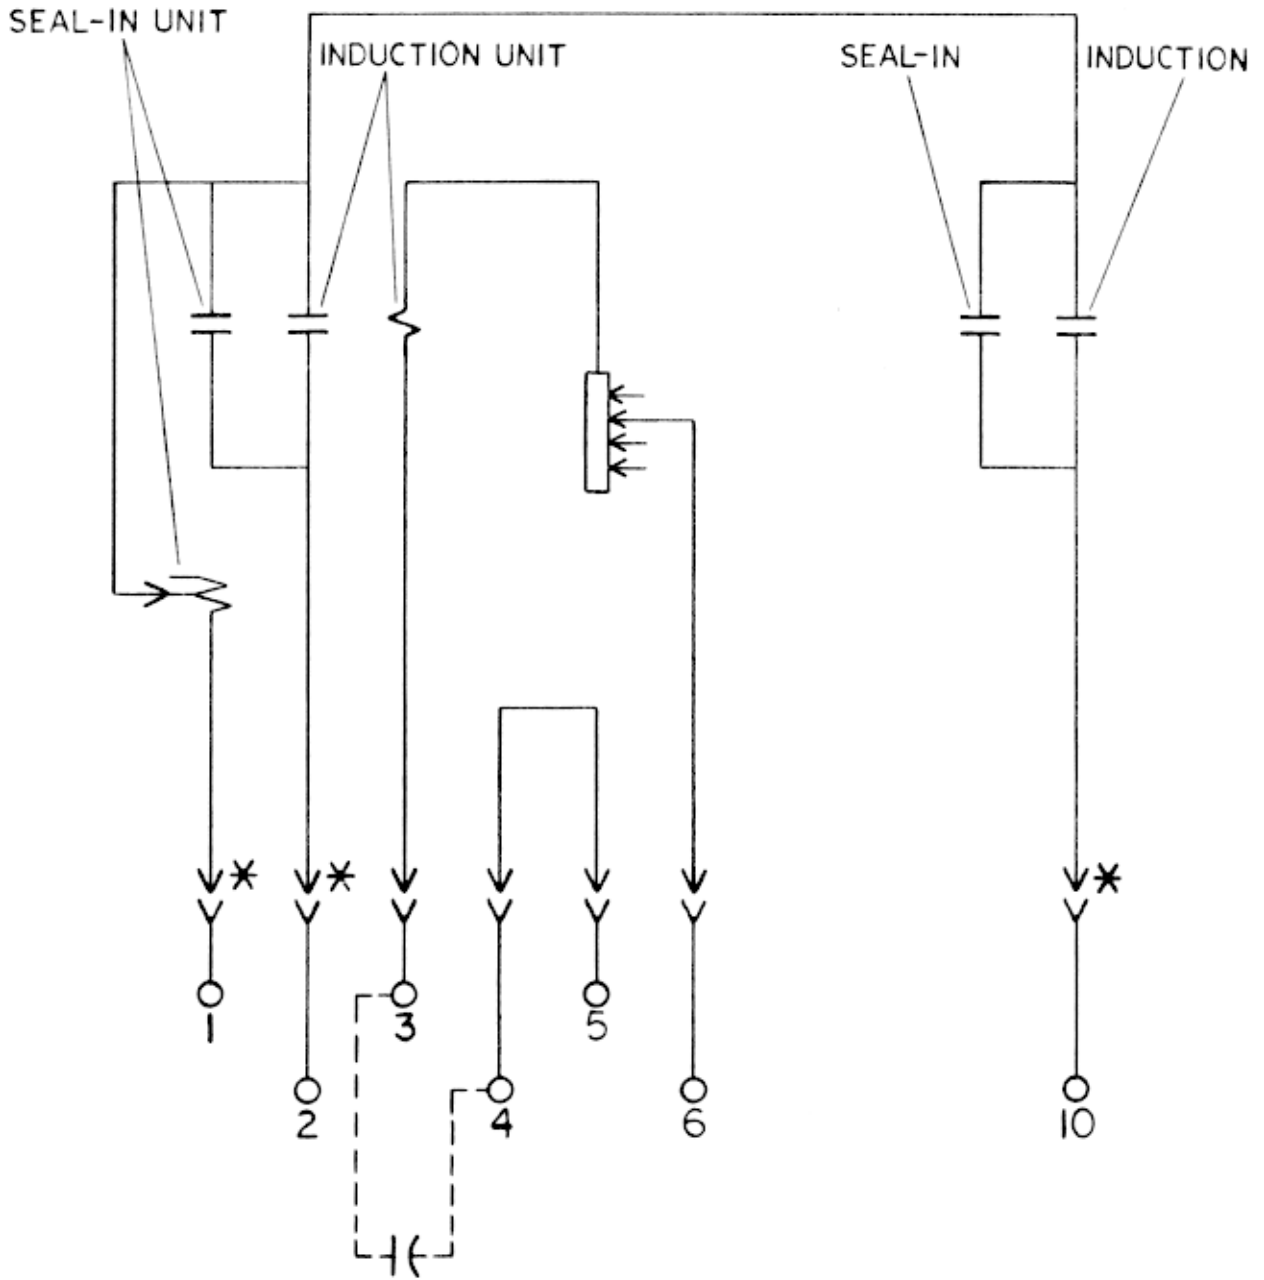

FIG. 7 (0257A8379-0) INTERNAL CONNECTIONS OF THE TYPE IA V52K RELAY, FRONT VIEW
- FIG. 7 (0257A8379-0) INTERNAL CONNECTIONS OF THE TYPE IAV52K RELAY, FRONT VIEW